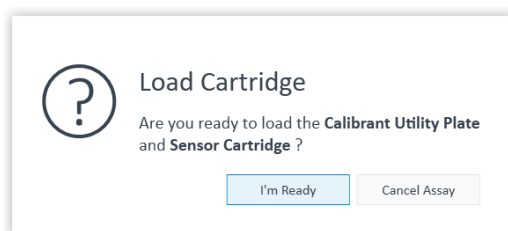

Figure 57. Load Cartridge prompt
- 2 After selecting a save location, XF Pro Controller software will ask if you are ready to load the sensor cartridge and utility plate (**Figure 57**).